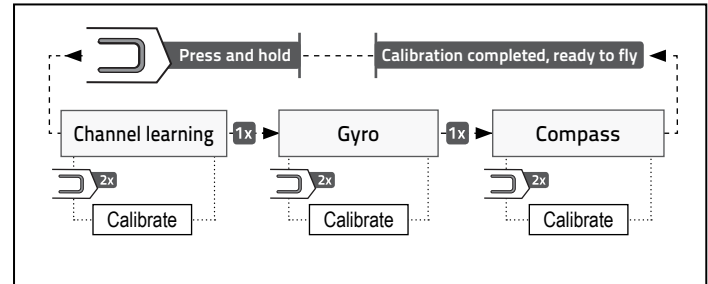

Fig. 9
The calibration button is integrated into the right rear LED (right button (25)). Press and hold the button to enter calibration mode. Press 2 times quickly to start calibration. Press 1 time to skip/go to next calibration step. Refer to »Fig. 9.